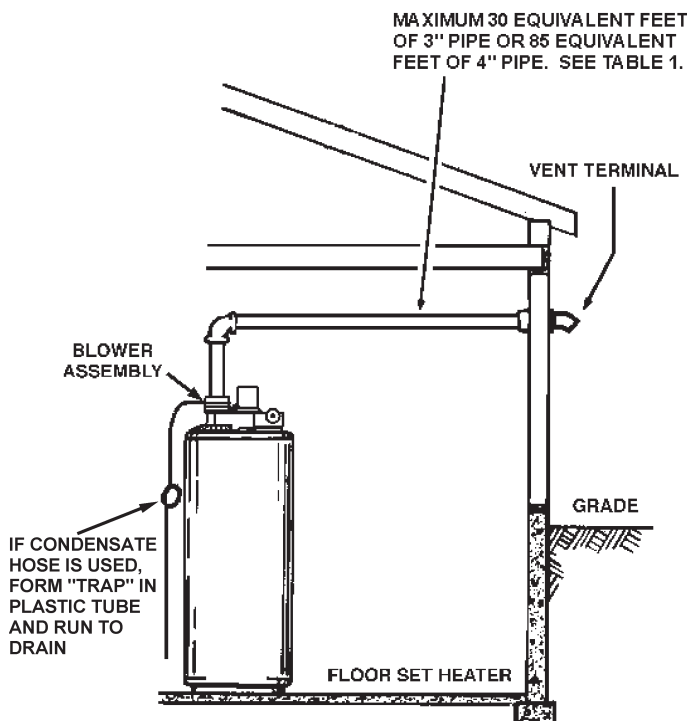
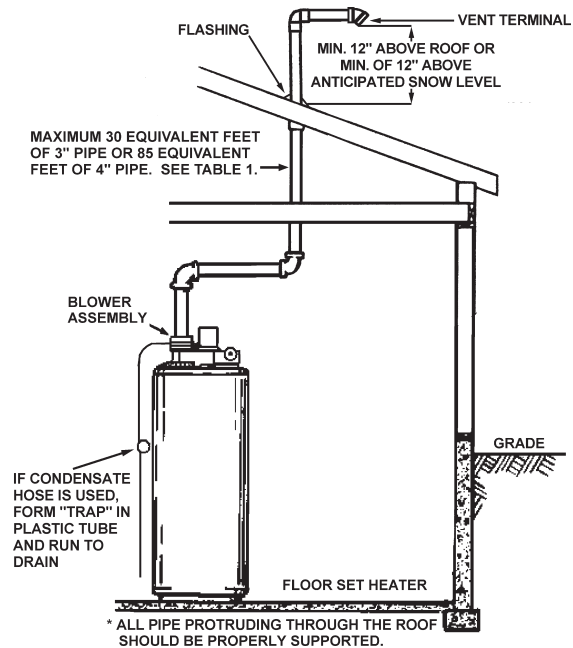

FIGURE 8
FIGURE 9
The first step is to determine where the vent pipe will terminate. See Figures 3, 8 and 9. The vent may terminate through the roof as shown in Figure 9 or through a sidewall as shown in Figure 8.
This unit is approved for venting through the roof with only the vent terminal that is included with the unit, see Figure 9. A proper flashing or "BOOT" should be used to seal the pipe where it exits the roof. The total vent system should not exceed the thirty (30) equivalent feet (9.1 equivalent meters) of 3 inch pipe or one-hundred (100) equivalent feet (30.5 equivalent meters) of 4 inch pipe as listed in Table 1.